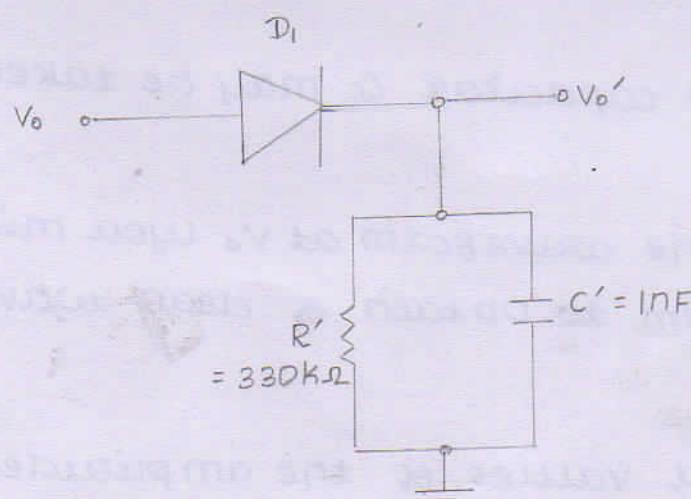

Fig 2
8. For demodulation, connect the output of the modulator (Fig 1) to the input of Fig 2. Plot the waveform obtained at the output V_o' .
For the Fig 2 The diode D_1 is the OA79/IN914. R' is chosen as $330\text{ k}\Omega$ and C' as INF .